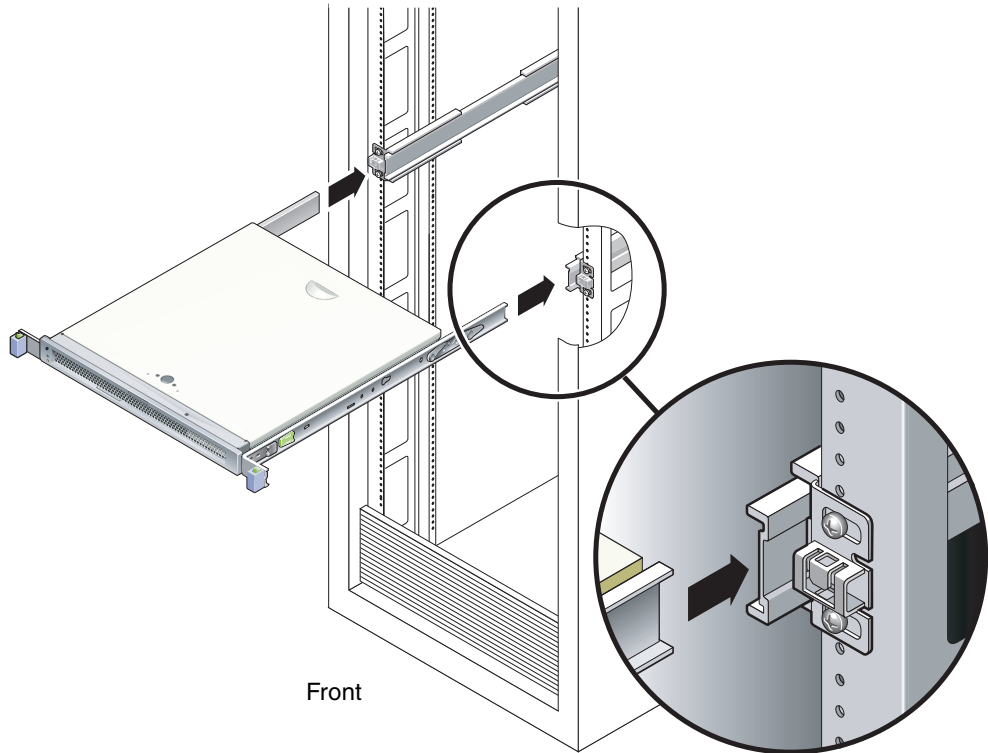

FIGURE 2-8 Mounting the Chassis on the Slide Rails
2. Raise the server and insert the ends of the mounting brackets into the left and right slide rails (FIGURE 2-8).